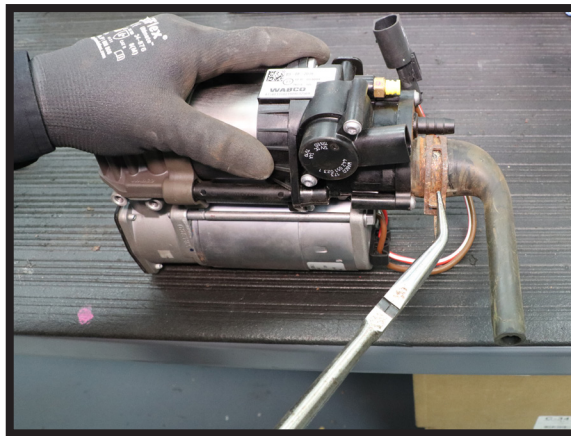

FIGURE 25
1. INSTALL THE EXHAUST HOSE ONTO THE NEW COMPRESSOR. (FIGURE 25)